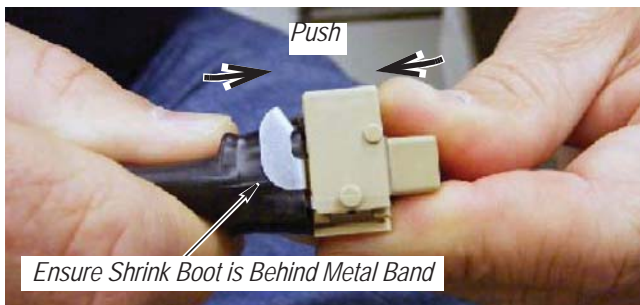

Figure 14
c. Clean the cables and rear of the plug connector housing using a tissue dampened with isopropyl alcohol. Refer to Figure 14, Detail A.
d. Slide the shrink boot over the two wire bundles so that the boot connector end faces the rear of the plug connector housing. Position the shrink boot so that it is behind the metal band of the plug connector and the boot lip is around the connector boot groove. See Figure 14, Detail B.